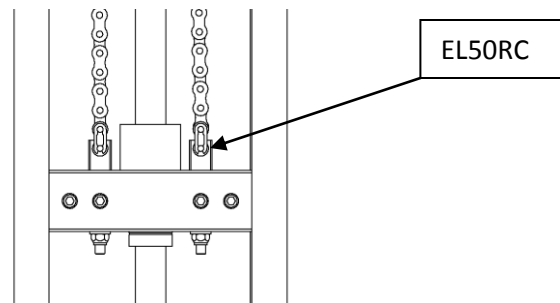

Figure 7
8. Once chains are fed through the top of the machine, run each chain down to load block and connect to chain adapter using master links supplied. **Figure 7.**